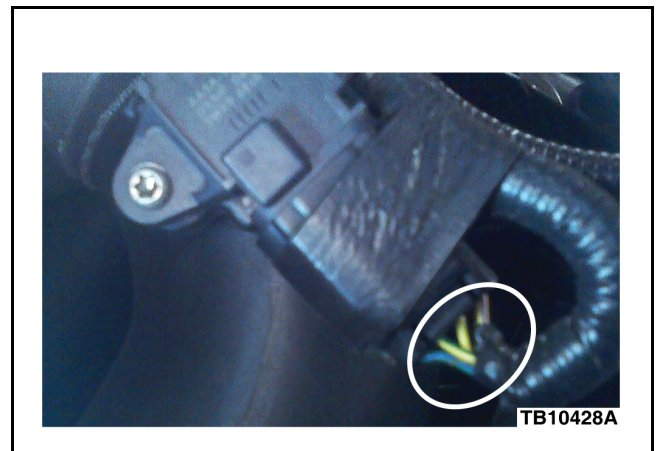

Figure 1 - Article 13-10-10
3. Inspect for damage the wiring harness at the Turbocharger Boost Sensor connector C1588 for crack to wiring insulation. (Figure 1)